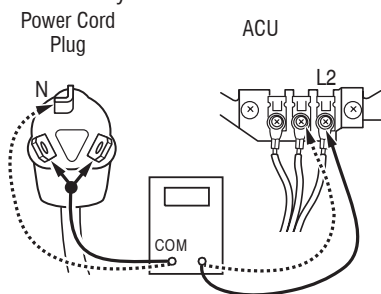

Figure 4b - Plug-to-terminal connections for electric dryer
7. Check for continuity between the neutral (N) terminal of the plug and J8-3 (white wire) on the ACU.
8. With an Ohmmeter, check which terminal of the plug is connected to the right-most contact on the terminal block and make a note of it. This will be L2 (Red wire) in the wiring diagram (See the location of the wiring diagram noted on page 11). See figure 4b.